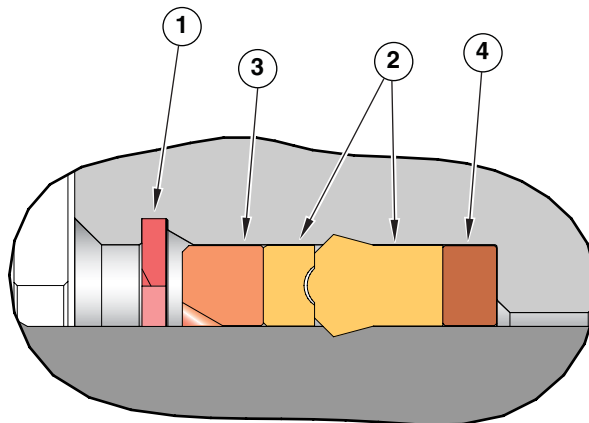
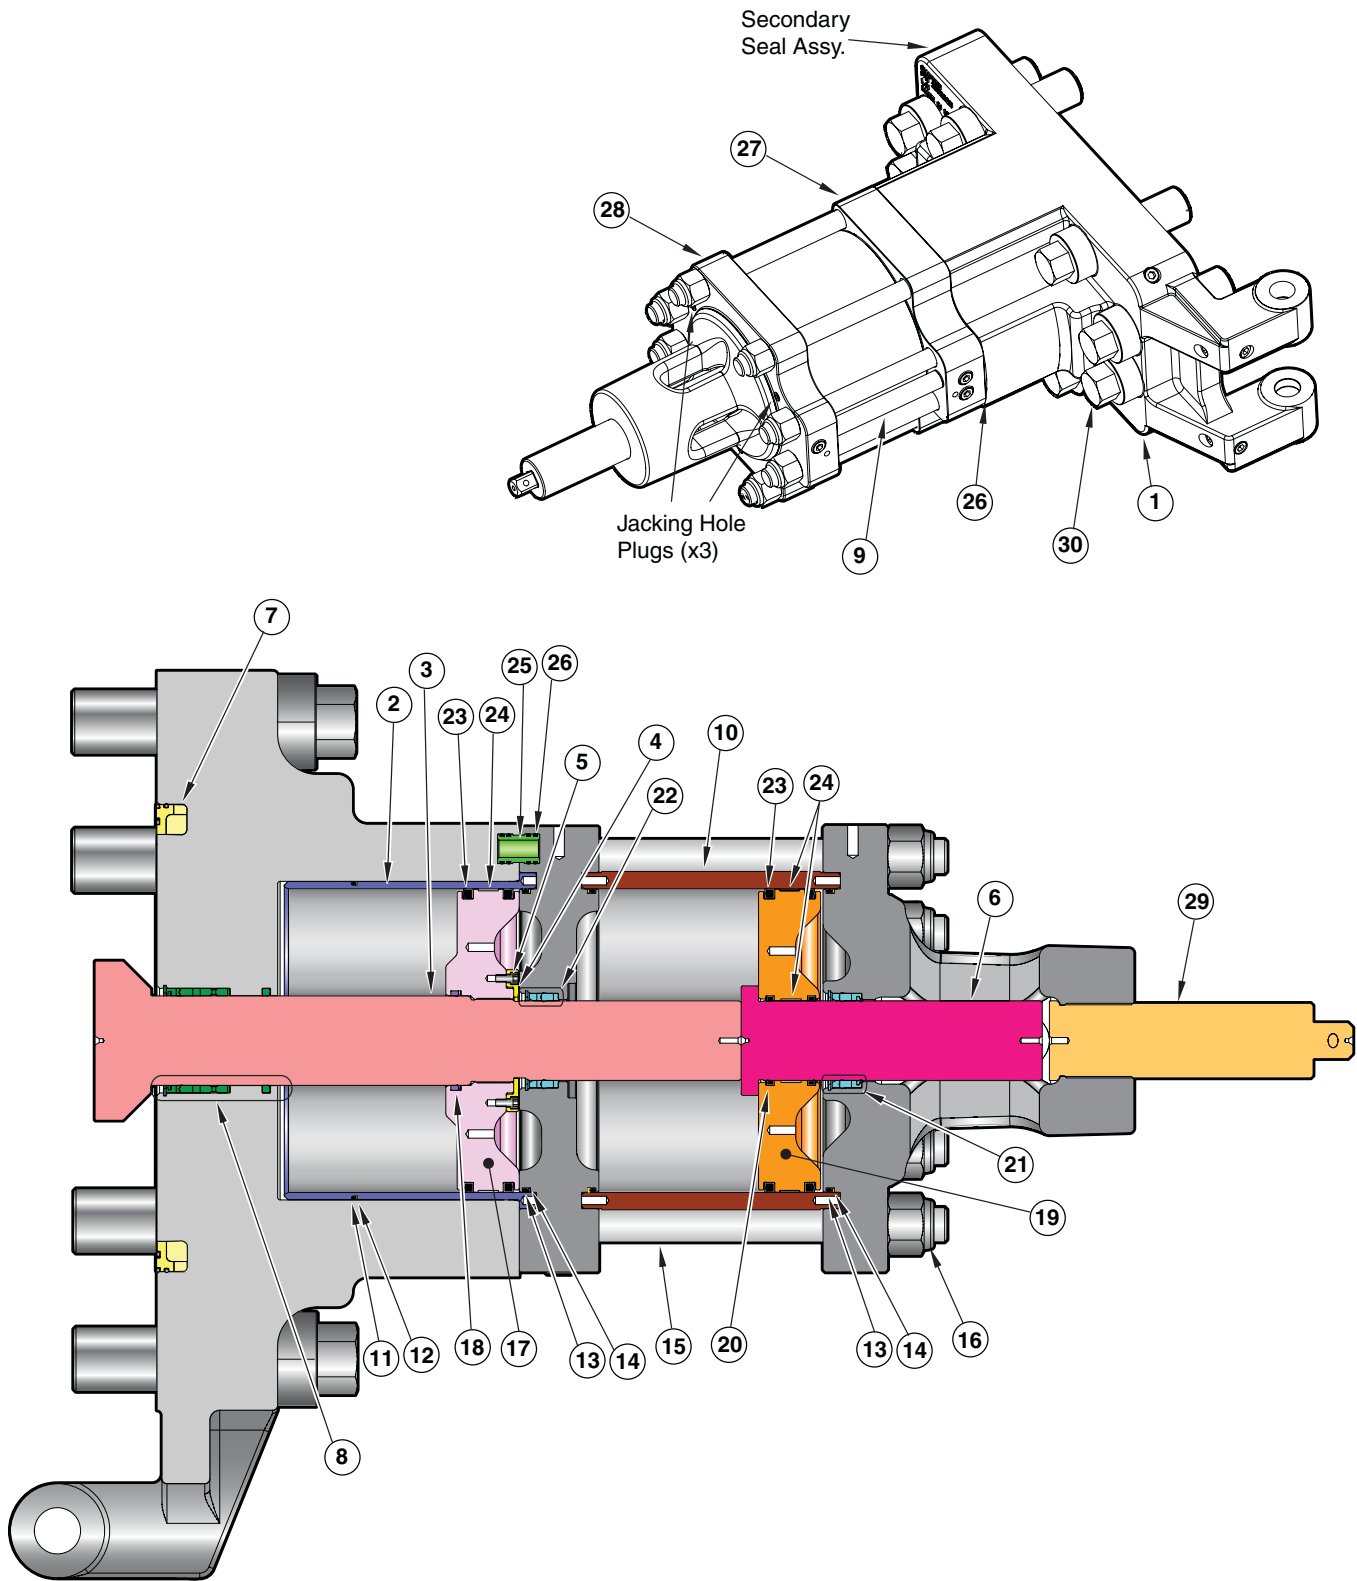

Figure 4-17. Middle Head Seal Assembly
Figure 4-18. 15.25 inch Manual Lock Door with Booster Assembly
(All items in parenthesis refer to Figure 4-18 on Page 4-28 Door Assembly Components.)
3. Remove the eight hex nuts (item 14) and install three ( $\frac{5}{8}$ -inch 11 UNC anti-seize lubricated) jacking bolts into the UNC threaded holes in the cylinder head (item 21).
4. Using the jacking bolts, tighten the bolts to pull the cylinder head from the door (item 1).
5. Install lifting eyes in the side of the cylinder head. Slide the cylinder head off the ram shaft (item 3). The locking shaft will be removed with the cylinder head.
6. Place the cylinder head in a supported position and remove the spiral retainer ring (3) from the cylinder head and remove the MHSA. (See Figure 4-17.)
(All items in parenthesis refer to Figure 4-18 on Page 4-27 and Figure 4-17 on Page 4-25.)
1. Clean the MHSA cavity of the cylinder head (item 21) with fine emery cloth.
2. Lubricate the MHSA and the cylinder head cavity with SAE 30W oil and install the new MHSA complete with a new spiral retainer ring as shown on Figure 4-17- Middle Head Seal Assembly on Page 4-25.
3. Install four new O-rings (item 8) on the seal sub (item 19). Lubricate with SAE 30W oil and install into the door (item 1).
4. Install a new back-up ring (item 12) and O-ring (item 11) into the cylinder head (item 21). Lubricate with SAE 30W oil.